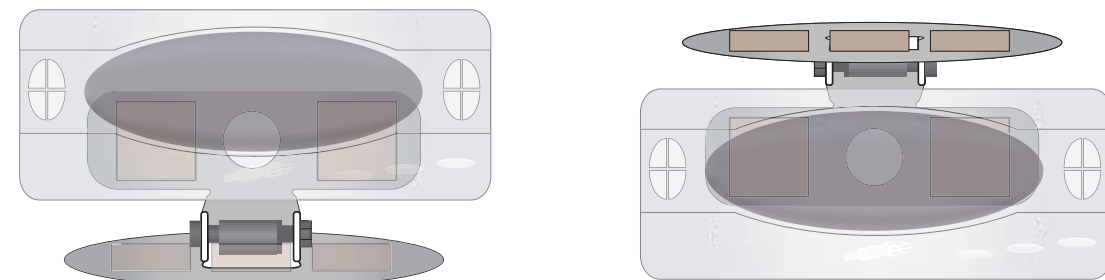

Figure 5
NOTE: The display panel can be mounted by either placing the bracket on top of something or by attaching the bracket to hang below something (Figure 5).
2. Cut the velcro into 1" squares and attach two "hook" pieces of the velcro to the mounting bracket and attach the two corresponding "loop" pieces of the velcro to the back of the display panel (Figure 5).
4. Attach the mounting bracket to its mounting location in the same manner. Place three "hook" pieces of the velcro onto the bracket and place three "loop" pieces of the velcro onto the chosen mounting location (Figure 5).